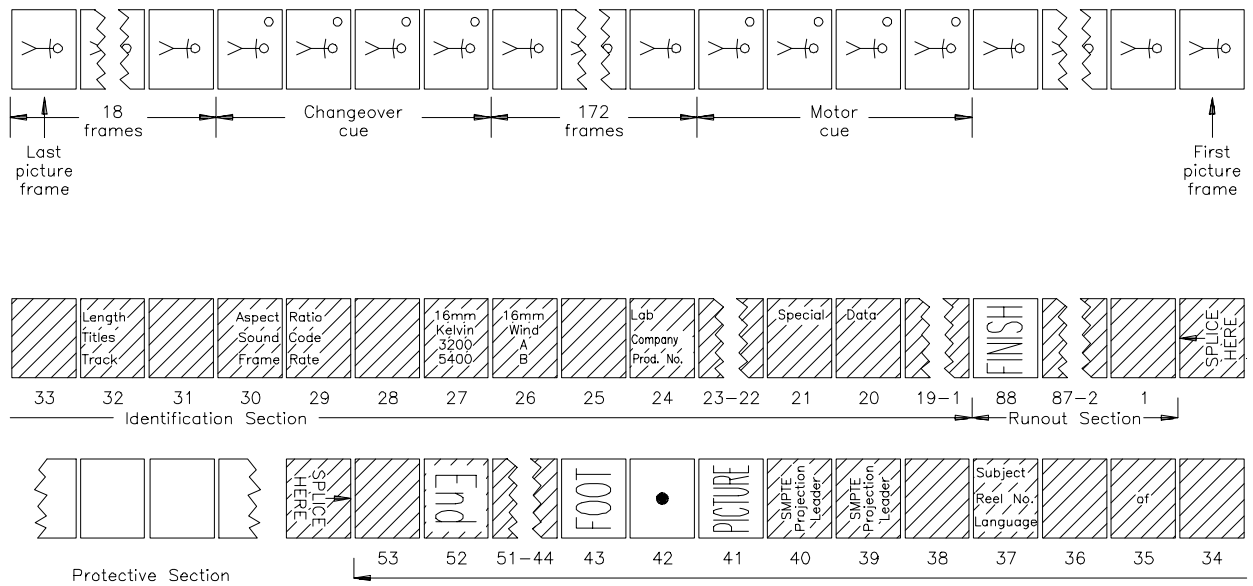

Figure 5 – Picture and trailer leader
6 Picture section (see figure 5)
7 Trailer (foot) leader (see figure 5)
Frame 52 – The printed word "End" in clear letters 7/16 in (11.1 mm) high in the center of the frame in the inverted upright position, as shown in figure 5, on black background.
7.3.2 One additional frame with the inverted upright words "SPICE HERE" as shown in figure 5, and an arrow pointing to a clear frameline between this frame and frame 53 to indicate where the protective section joins the trailer. The clear letters should be at least 1/8 in (3.2 mm) high printed on a black background.